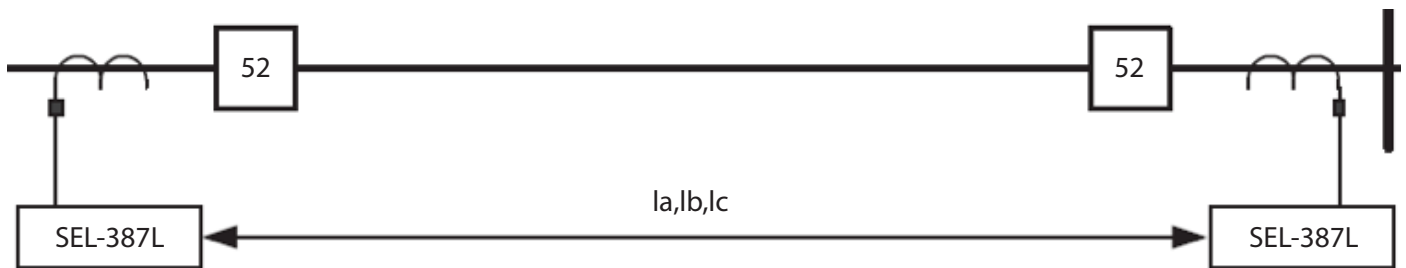

Figure 1
Umatilla Electric Cooperative (UEC), a Coop located in northern Oregon, was serving an important customer via an overhead feeder. This feeder was protected with (2) SEL-387L Line Differential relays and a main distribution breaker. This two-terminal 15kV line differential scheme is represented in Figure 1 below.